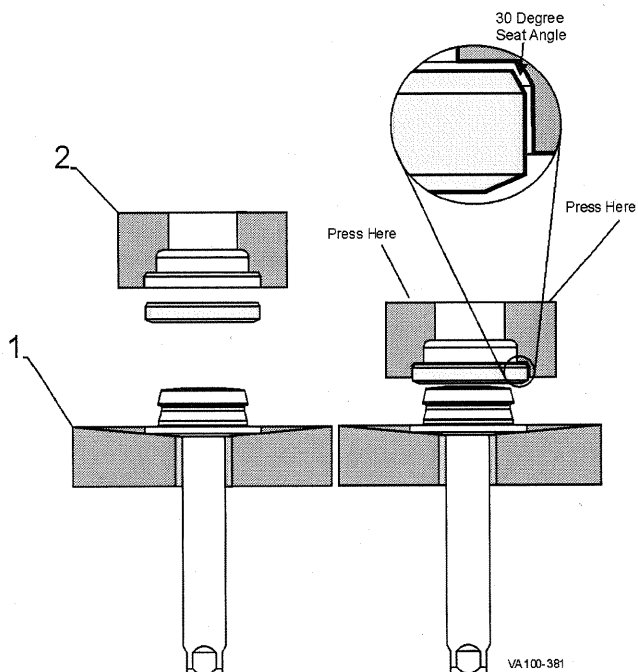

Figure 14      **Seat Ring Installation**
3. To install new seat, place installation tool base (Figure 14, item 1) onto table or bench with a 1.0" hole.
6. Place seat ring tool (Figure 14, item 2) over seat ring.